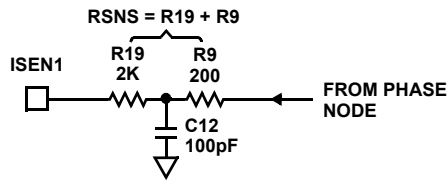

FIGURE 10. NOISE FILTER FOR ISEN1 INPUT
5. A 'T' filter consisting of a 'split' RSNS and a small, 100pF, capacitor as shown in Figure 10, may be helpful in reducing noise coupling into the ISEN input. For example, if the calculated value of RSNS1 is 2.2kΩ, dividing it as shown with a 100pF capacitor provides filtering without changing the current limit set point. For any calculated value of RSNS, keep the value of the R9 portion to approximately 200Ω, and the remainder of the resistance in the R19 position. The 200Ω resistor and 100pF capacitor provide effective filtering for noise above 8MHz.